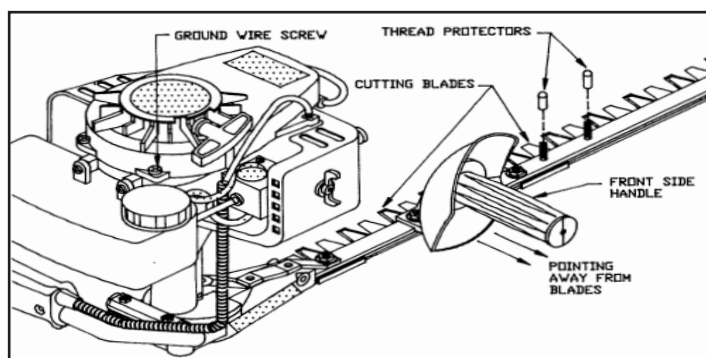

Figure 1
2. Place the front side handle over the two 1/4-28 studs protruding from the frame bar in front of the gear housing. The handle grip **must** be pointing away from the cutting blades as illustrated (Figure 1). On Model SGHT30 use the set of studs which places the handle in the most comfortable position for you. Place the thread protectors over the set of studs that you choose not to use at this time to protect the threads. Secure the handle in place using two 1/4-28 flange locking nuts provided. The nuts should be tightened enough to keep the handle from moving but not so tight as to crush the plastic.